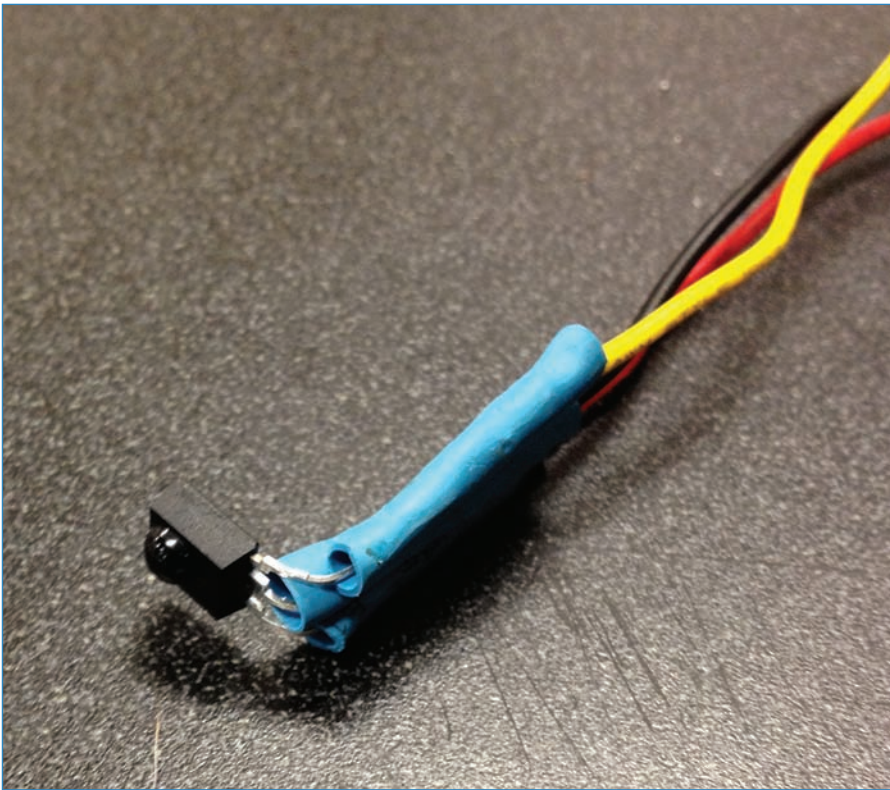

FIGURE 12.12 The IR sensor with jumpers soldered on.
- G** Solder jumpers (see Figure 12.12) to the infrared sensor so it can be attached to the outside of the cigar box.